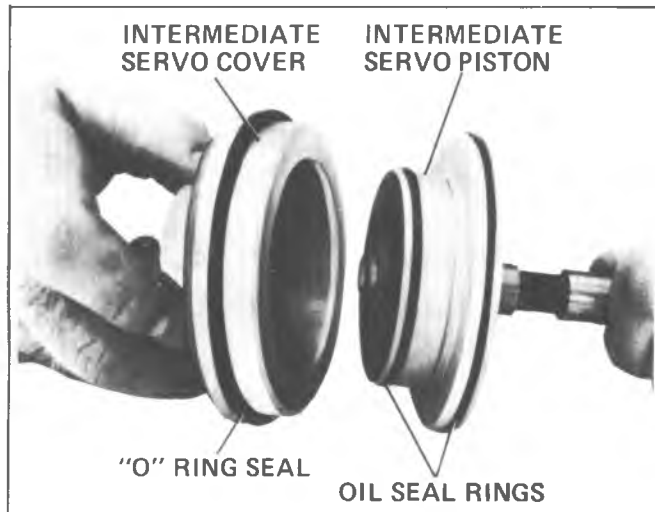

Fig. 7A-149A--Installing Intermediate Servo Piston into Cover
6. If removed, install new intermediate servo piston, inner and outer seal rings. Make sure cut ends are assembled in the same relationship as cut (Fig. 7A-120A). Make sure rings are seated in the grooves to prevent damage to the rings. Retain with petrolatum.
8. Install intermediate servo piston assembly into intermediate servo cover (Fig. 7A-149A).